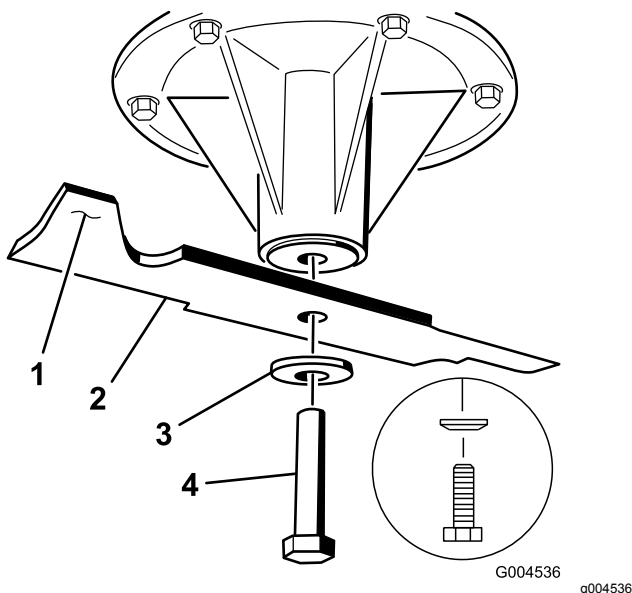

Figure 101
- Install the blade onto the spindle shaft (Figure 101).
- Install the spring disk and blade bolt (Figure 101).
Note: The spring-disk cone must be installed toward the bolt head (Figure 101).